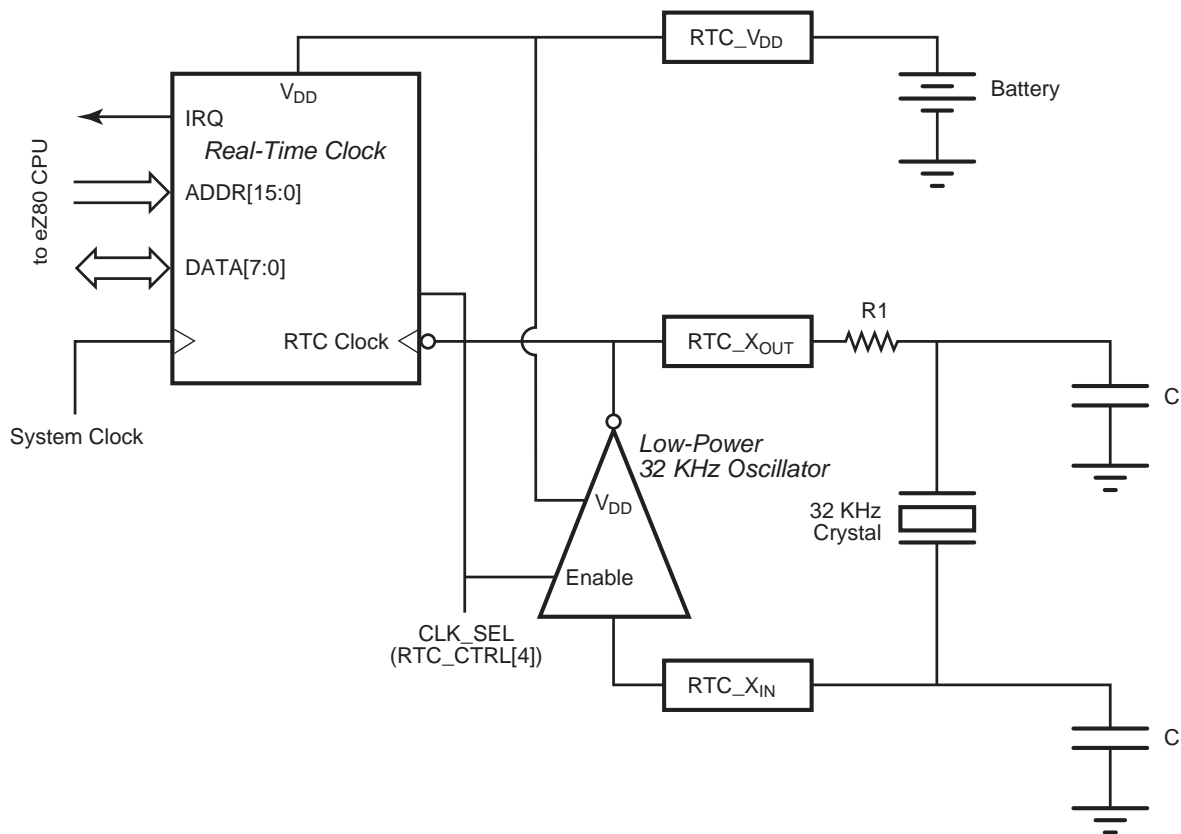

Figure 35. Real-Time Clock and 32kHz Oscillator Block Diagram
The Real-Time Clock (RTC) maintains time by keeping count of seconds, minutes, hours, day-of-the-week, day-of-the-month, year, and century. The current time is kept in 24-hour format. The format for all count and alarm registers is selectable between binary and binary-coded decimal (BCD) operations. The calendar operation maintains the correct day-of-the-month and automatically compensates for leap year. A simplified block diagram of the RTC and the associated on-chip, low-power 32 kHz oscillator is shown in Figure 35, which also shows connections to an external battery supply and a 32kHz crystal network.
► **Note:** If you are not using the Real Time Clock, the following RTC signal pins must be connected as shown in Figure 35 to avoid a 10μA leakage within the RTC circuit block. RTC\_XIN (pin 61) must remain floating or connected to ground.
The RTC count is driven by either the on-chip 32kHz RTC oscillator or an external 50/60 Hz CMOS-level clock signal (typically derived from the AC power line frequency). The on-chip oscillator requires an external 32 kHz crystal connected to RTC\_XIN and RTC\_XOUT as shown in Figure 35. If an external 50/60 Hz clock signal is used, connect it to RTC\_XOUT.